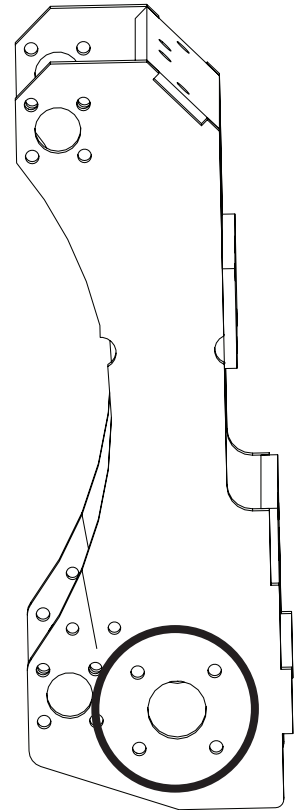

Figure 6
1. Residual Loctite must be removed from specific bolt holes. On each side of the grabber carriage assembly, at the location where the motors attach to the grabber assembly, clean the four (4) bolt holes and the large hole for the motor shaft.
- a. Start by cleaning inside the bolt holes with a tube brush on an electric drill (see Figure 6 for location of holes). Clean the bolt holes on **both sides of the grabber assembly** where the motors are bolted onto the grabber assembly. The residue from the Loctite is hard and is a contaminate for the installation of the new hardware if it is left in place. The holes are clean when all of the Loctite is removed; do not grind the holes.
- b. Clean the large hole for the motor shaft (see Figure 6) with a tube brush on an electric drill. Clean both of the large holes on **both sides of the grabber assembly**. The holes are clean when all of the Loctite is removed; do not grind the holes.
16. Insert the motorshaft support bearing into the large motor shaft hole on the grabber carriage assembly (the hole you already prepped) (see Figure 6). Use the bearing retainer to assist in locating the bearing position. Do this on both motor shaft holes — one bearing per large hole.